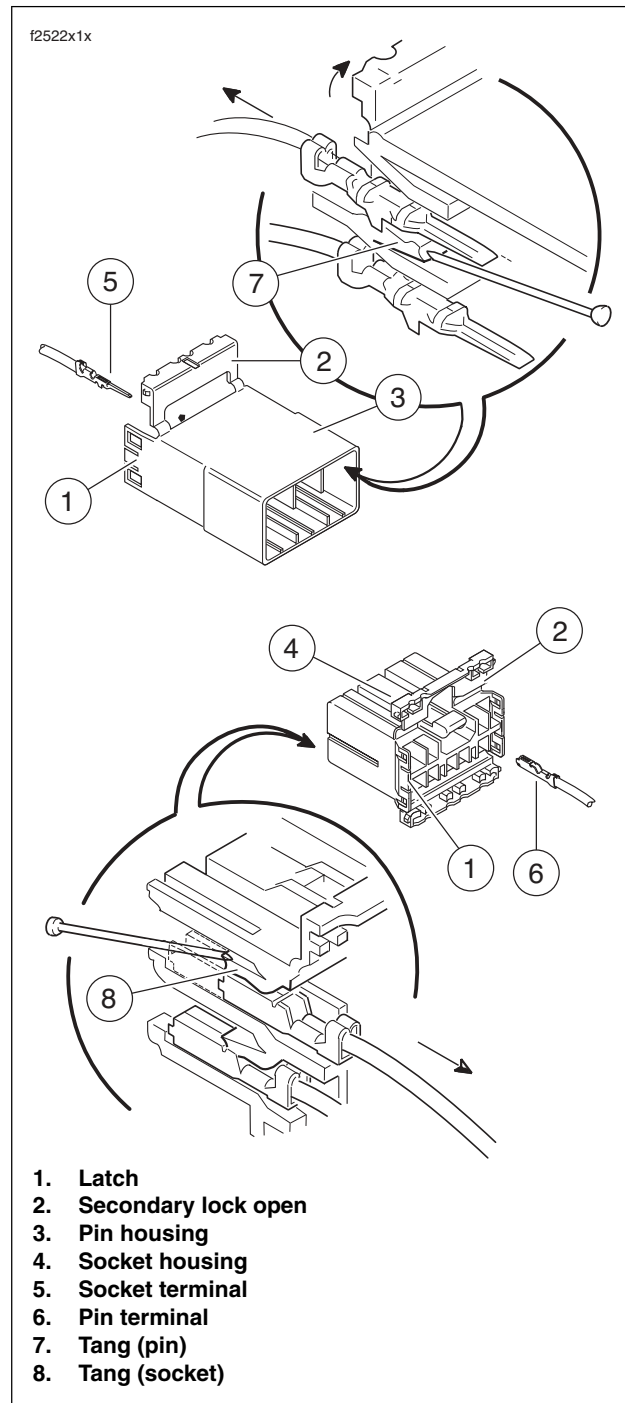

Figure B-2. Socket and Pin Housings
1. See Figure B-2. Bend back the latch (1) to free one end of secondary lock (2) then repeat on the opposite end. Hinge the secondary lock outward.